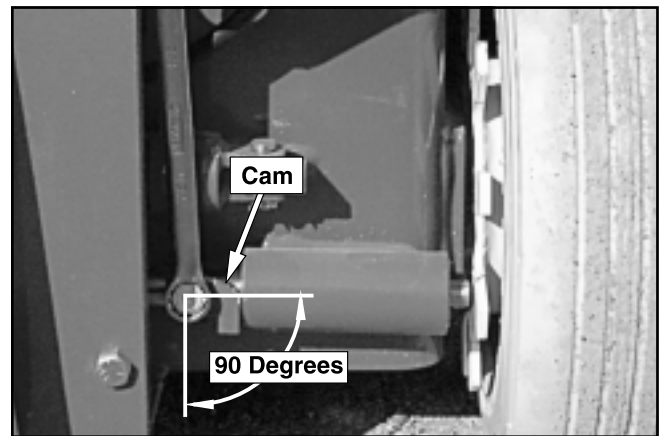

Figure 10.1—Brake Release Cam
5. Use a $\$$ wrench to rotate each brake release cam 90° (refer to Figure 10.1). Rotate the cam on the right brake cylinder counterclockwise and the one on the left brake cylinder clockwise. This will retract the brake pins from the wheel lugs releasing the brakes. Remove the wrench.